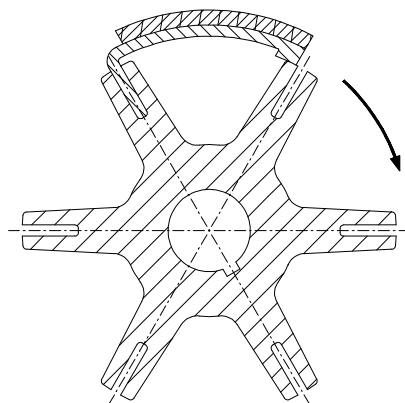

Figure 9.2
- 6) Preassemble the clutch shoe-holders and shoes (parts 07.040.0 to 07.060.0) on the motor shaft (07.030.0) and then fasten all to the frame with the screws (07.010.0). The shoes must be placed as shown on fig 9.2 and inserted into the shoe-holder in symmetrical position. Before carrying out this step of the assembly, carefully clean the clutch pulley and shoes with abrasive cloth.